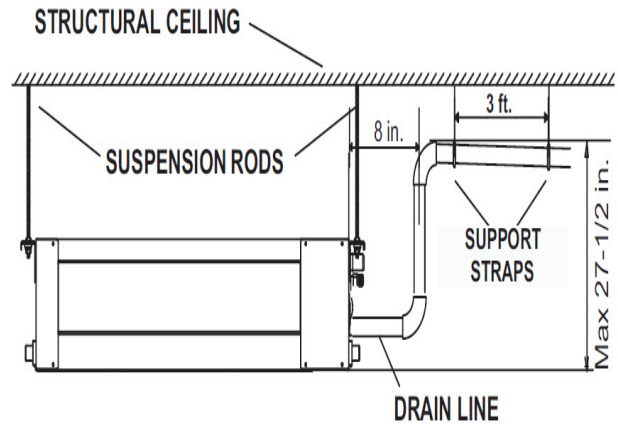

Fig. 14 — Condensate Piping
- The highest point in the condensate piping should be as close to the unit as possible (see Fig. 14).